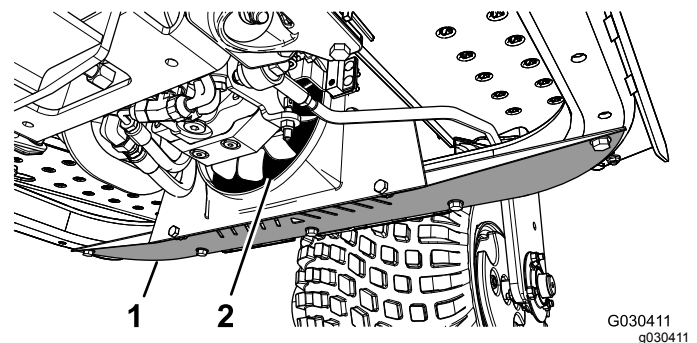

Figure 45
- Remove the lower shield (Figure 45).
- Using a wand, blow compressed air in between the fan blades (Figure 45) to force material out from the direction that it entered.